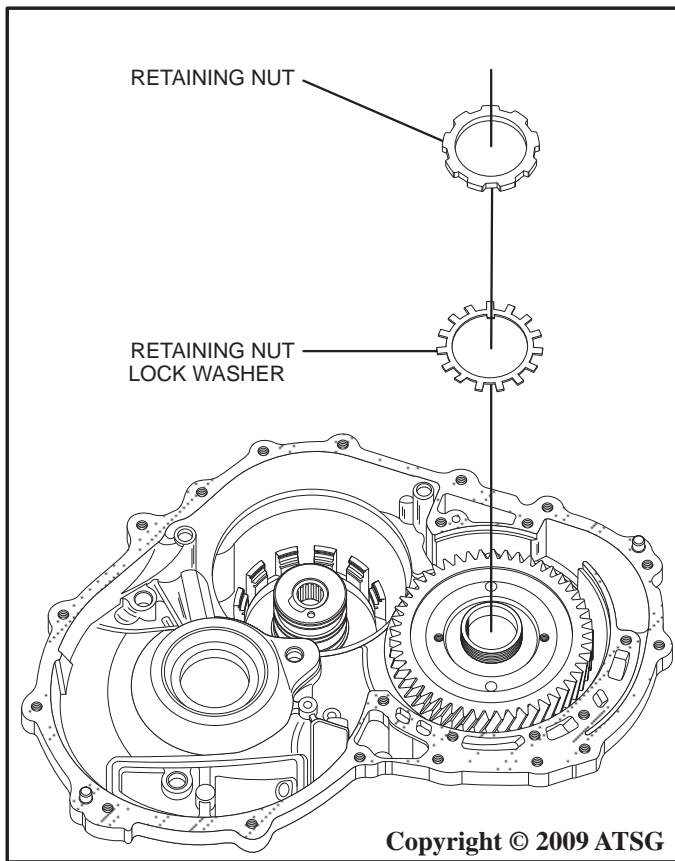

Figure 153
14. Flip the case housing over and install the counter drive gear retaining nut lock washer as shown in Figure 153.
15. Install the counter drive gear retaining nut as shown in Figure 153.